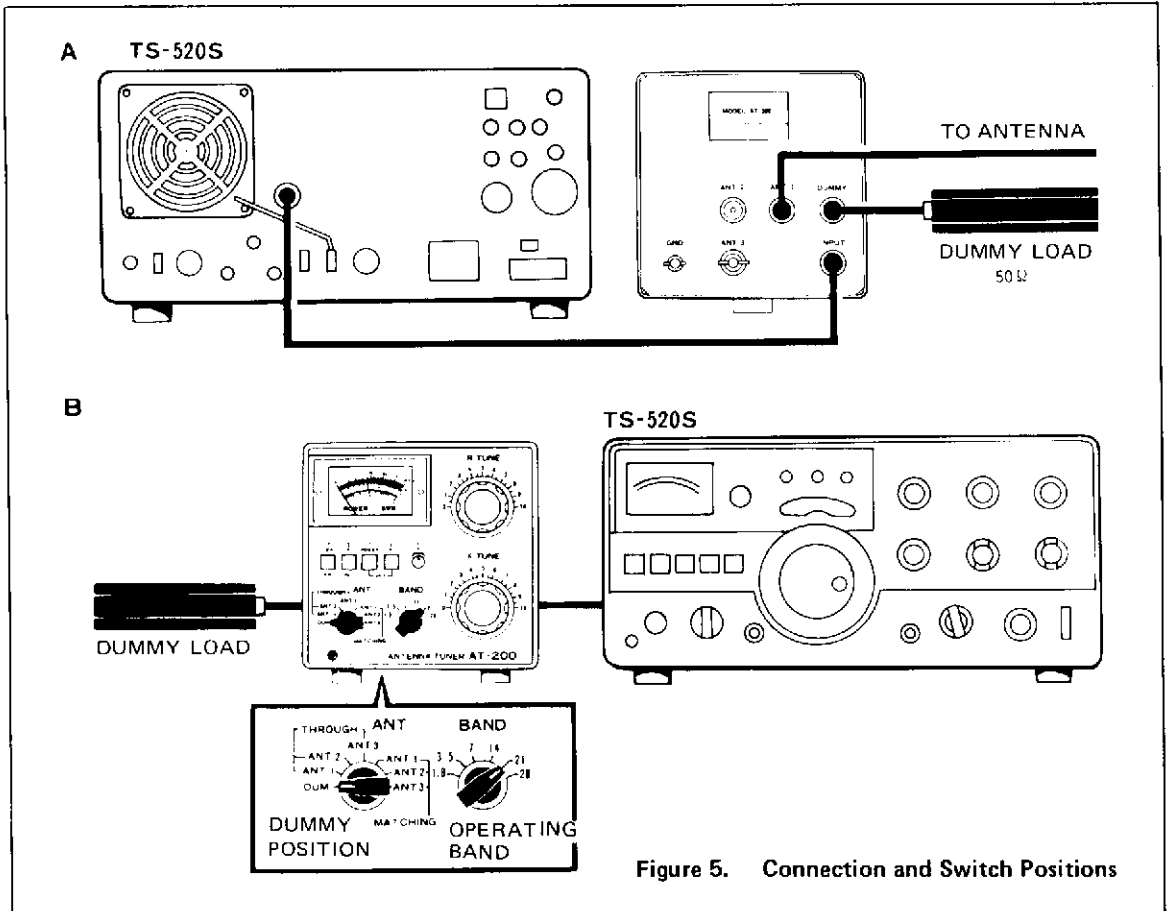

Figure 5. Connection and Switch Positions
Interconnect your AT-200 with the transceiver, antenna and dummy load as illustrated in Figure 5-A.
- a. Set the ANT switch to the DUM position as shown in Figure 5-B.